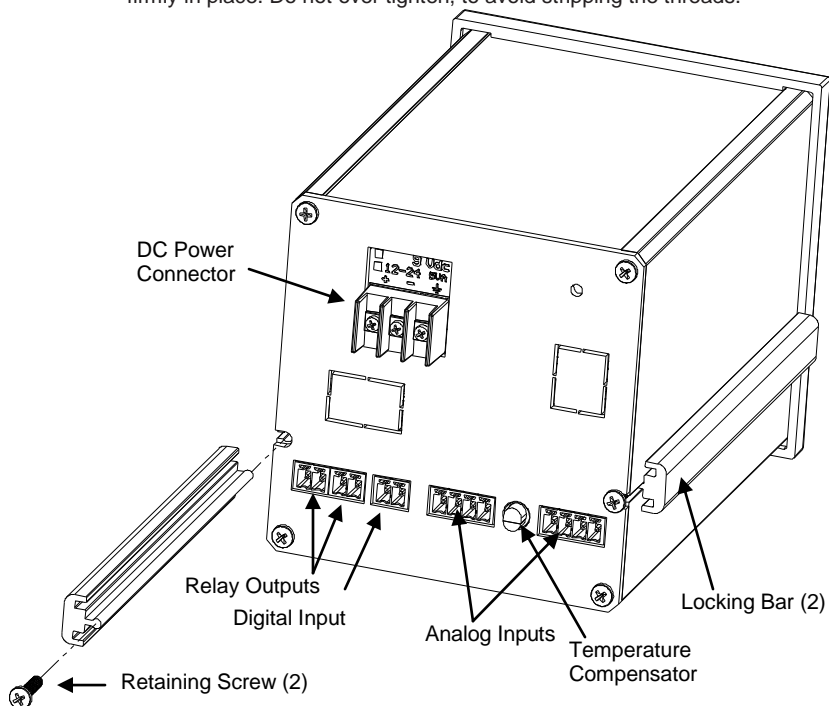

Figure 2.2 Rear View - Installation
- 2.2.1.5** With the Recorder held firmly in place against the panel, install one of the locking bar assemblies from the rear, by sliding the locking bar tongue into the groove on the side of the Recorder enclosure as shown in Figure 2.2.